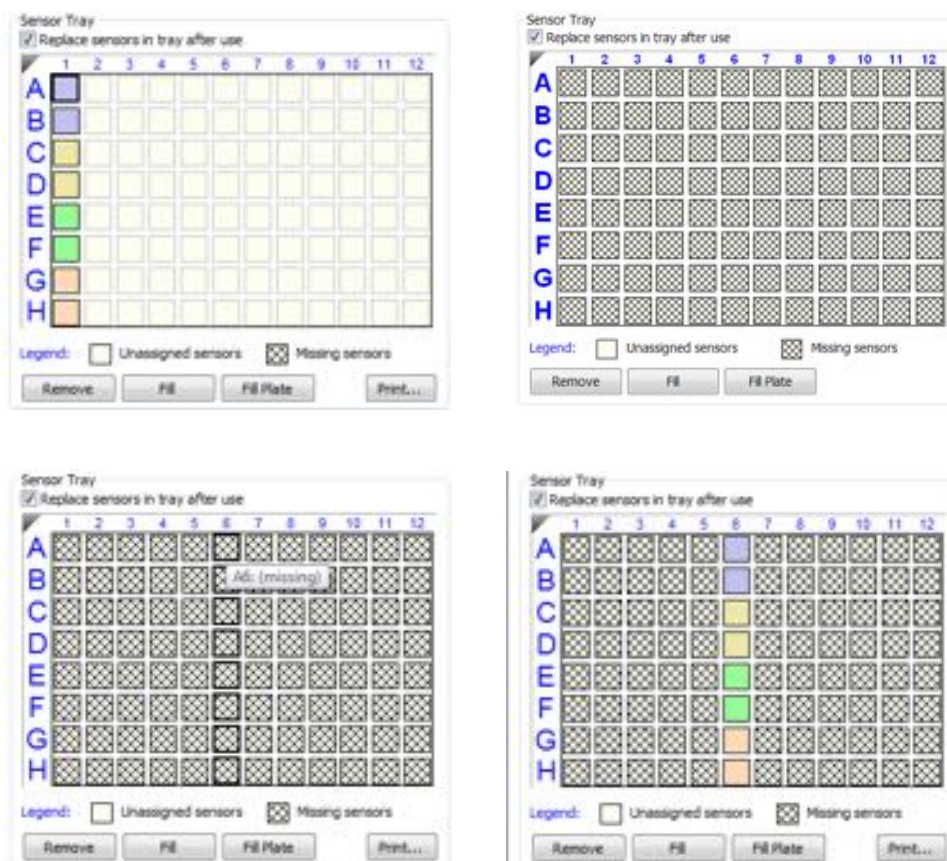

Figure 8-48: Changing Biosensor Location (Method 2)
1. In the **Sensor Tray Map**, select all of the columns and click **Remove** (Figure 8-48 top left). Or, right-click the selection and select **Remove**. All columns will be shown as **Missing** (Figure 8-48 top right).
2. Select the sensor locations to use and click **Fill**. Or, right-click the selection and select **Fill** (Figure 8-48 bottom left). The software fills the selected columns in the tray (Figure 8-48 bottom right).